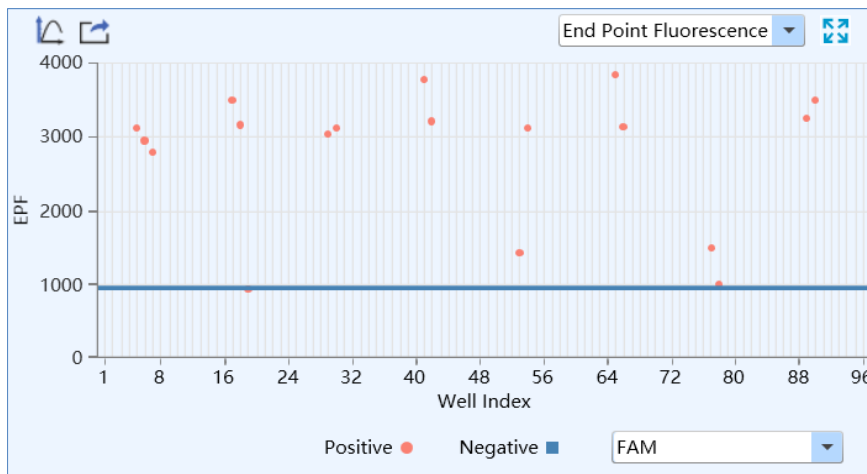

Figure D-18.1. End Point Fluorescence Analysis Interface - End Point Fluorescence Scatter Plot
**I. End Point Fluorescence Scatter Plot:** display the scatter plot of fluorescence intensities measured at end the point of amplification plateau phase, as shown in figure D-18.1.